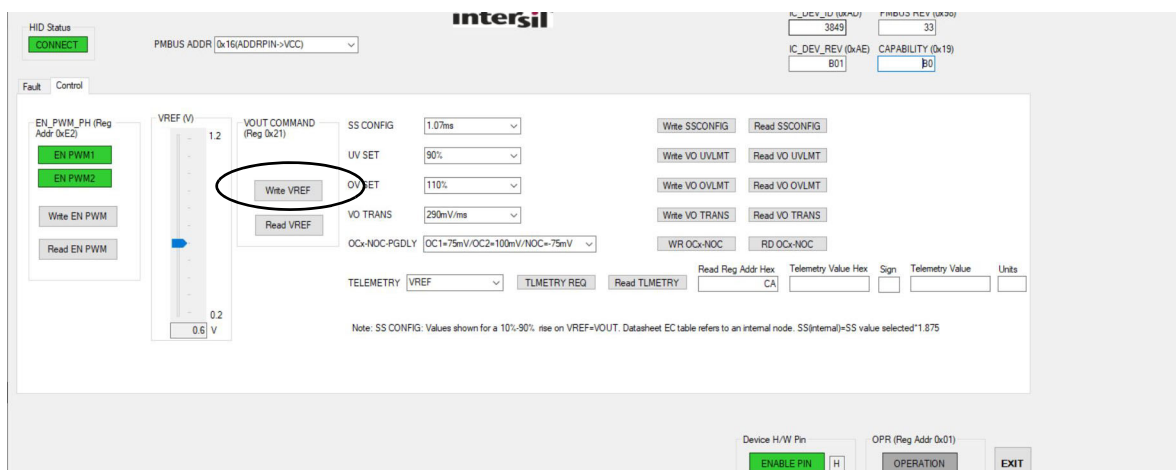

Figure 6. Change the VREF
14. Program the VREF of the PWM Controller to 0.6V by clicking **Write VREF** as shown in Figure 6 below.